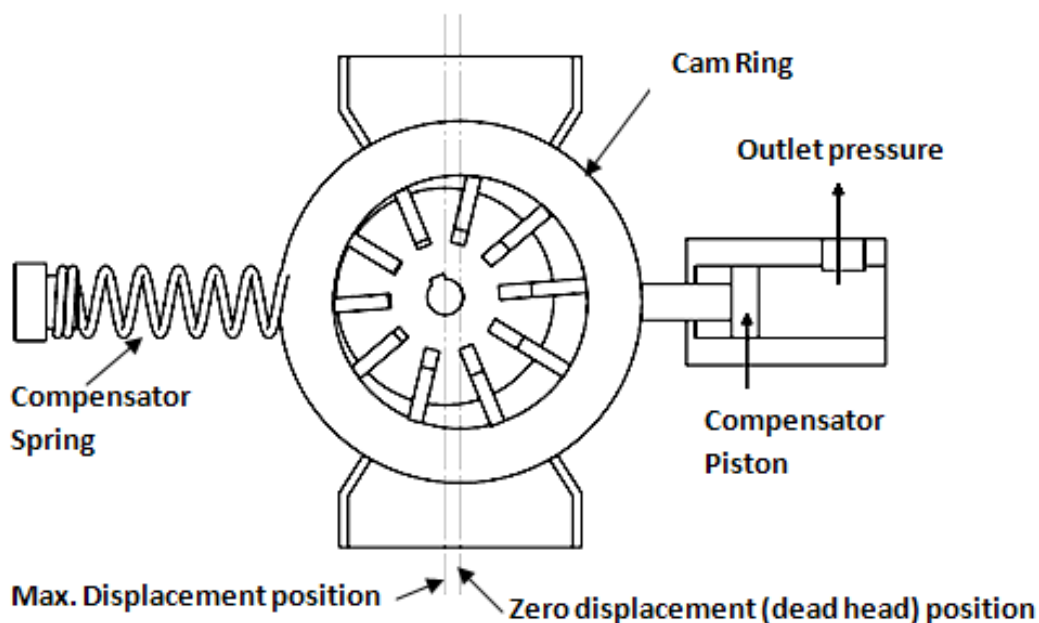

Fig.3.6 - Adjustable vane pump
- ▶ Therefore, some vane pumps are also available with adjustable capacity as shown in figure 3.6. This can be achieved by adjusting a positional relationship between the rotor and the inner casing with the help of an external controlling screw.